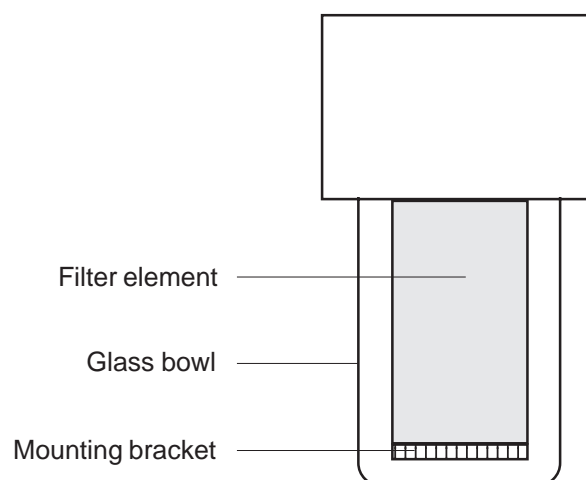

Fig. 19-1: Fine Dust View Filter
- Reinstall mounting bracket and close filter with the glass bowl (see Fig. 19-1).